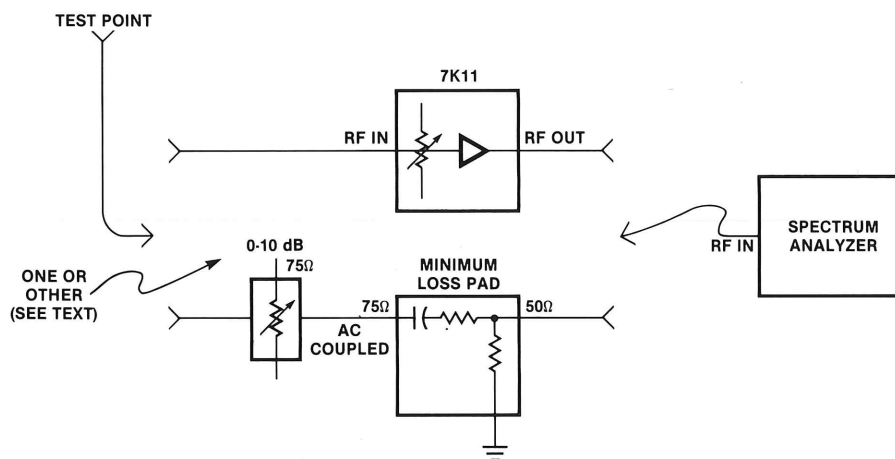

Figure 8-1. Equipment connection for carrier-to-noise measurement.
1. Set up the equipment as illustrated in figure 8-1.